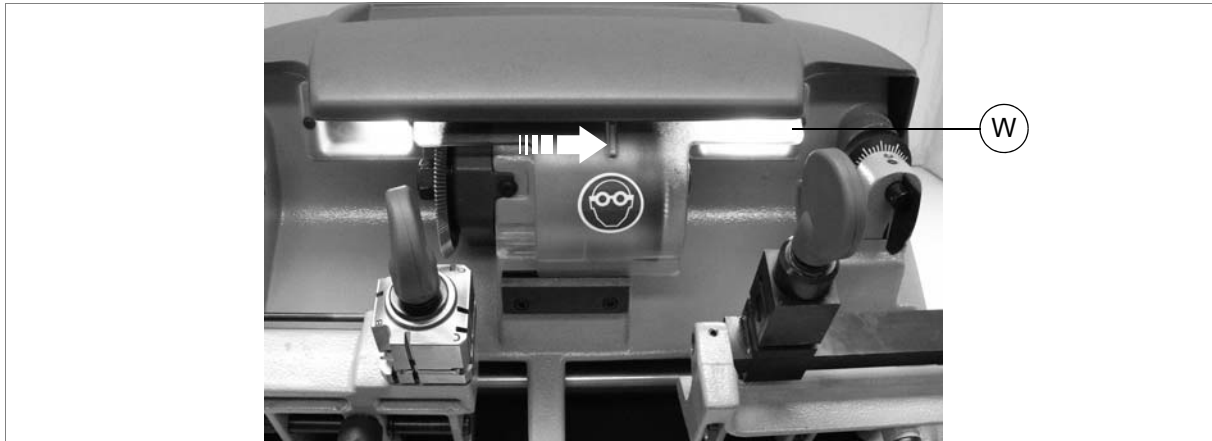

Fig. 13
- to operate the left-hand carriage, take shield (W) to the right (fig. 13)